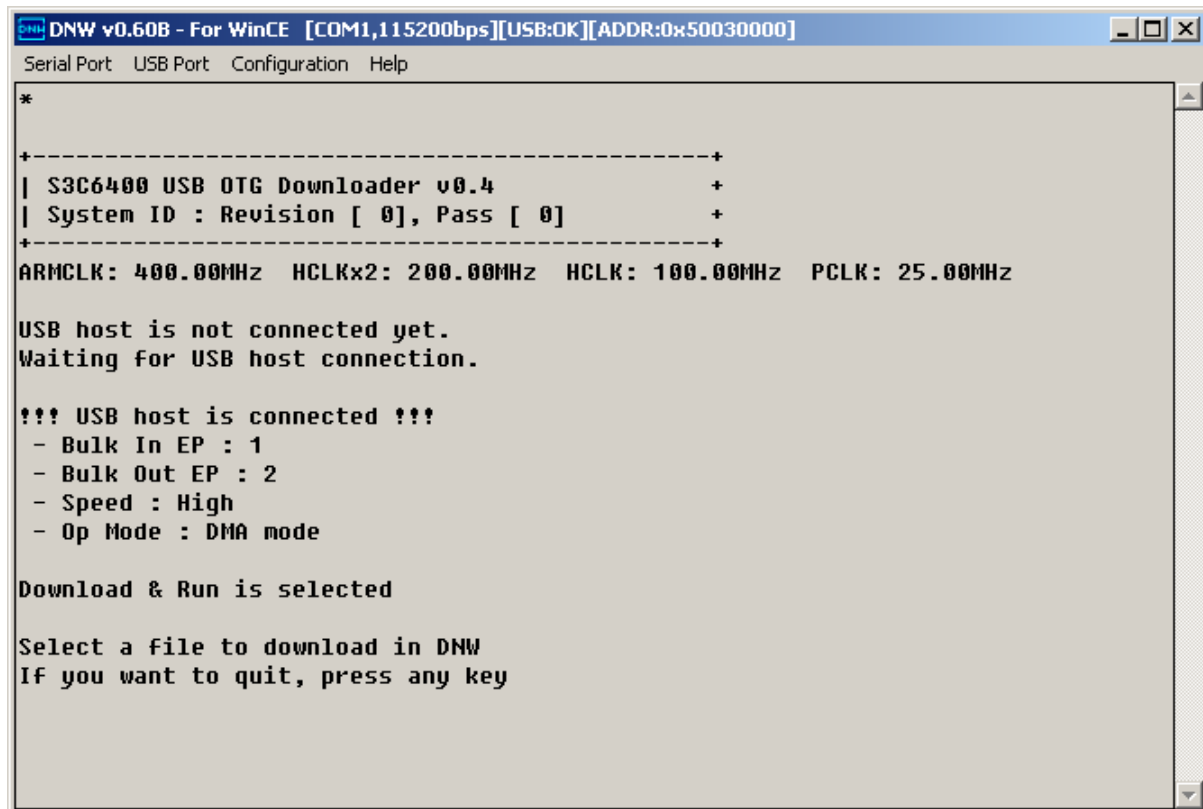

Figure 6-25 DNW Window after reset
28. Reset the board. DNW window appears as shown in figure 6-25.